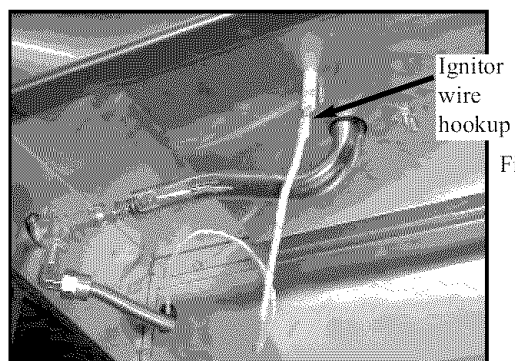

Fig. 22
4. Attach the ignitor wire coming out from the side of the grill to the side burner ignitor point. (See Fig. 22)